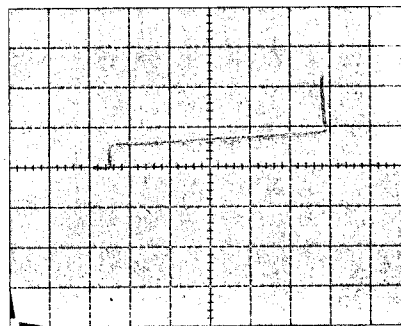

Figure 2-1. + Input bias current.
- 3) Measure Trace — Press UPPER and LOWER STORE buttons on 577 to obtain clear trace. If necessary, press UPPER and LOWER ERASE to clear screen. Check to see that vertical displacement is within specified value [2.5 divs, equal to $.5 \mu\text{A}$] over op amp's specified input common-mode range. Refer to Figures 2-1 and 2-2. 3 2